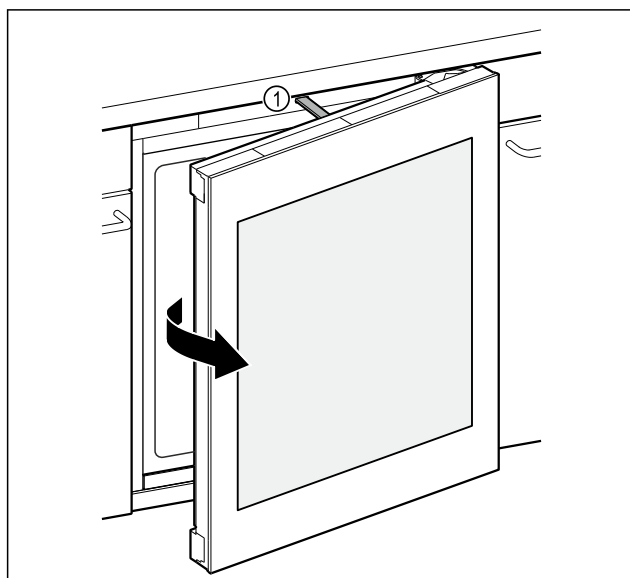

Fig. 88
- ▶ Push rod Fig. 88 (1) opens door approximately 7 cm.